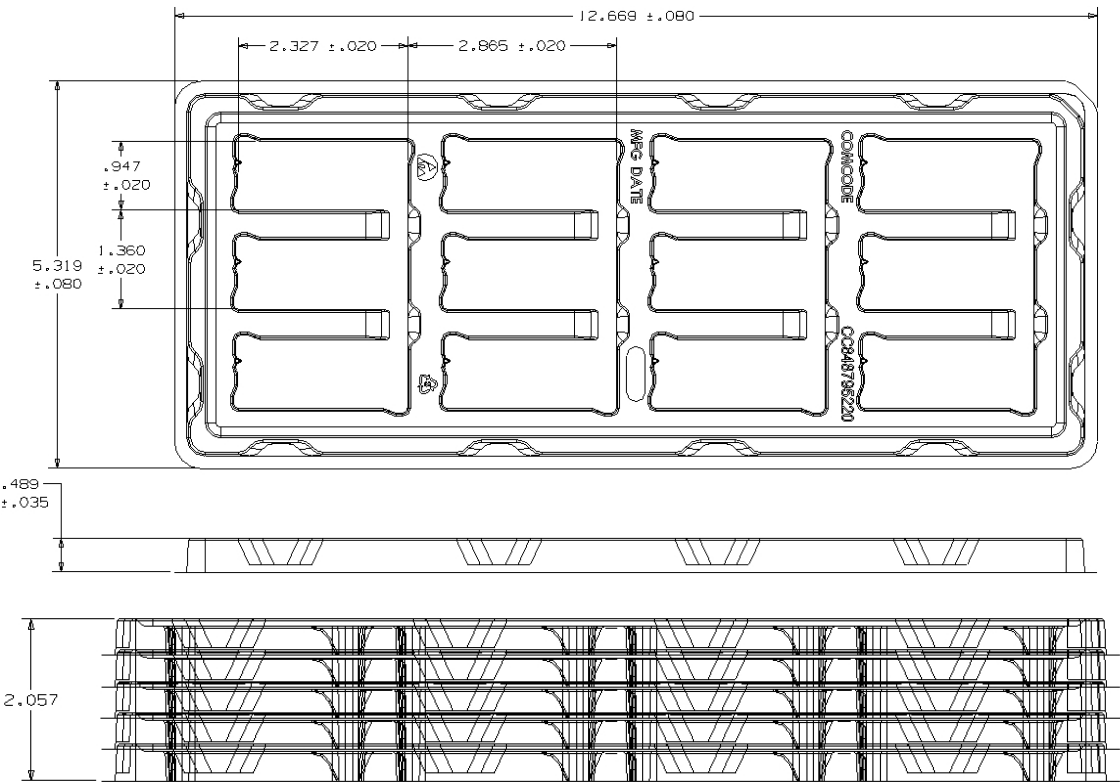

Figure 46. Surface Mount Packaging Tray.
The surface mount versions of the EQW surface mount modules (suffix -S) are supplied as standard in the plastic tray shown in Figure 46. The tray has external dimensions of 135.1mm (W) x 321.8mm (L) x 12.42mm (H) or 5.319in (W) x 12.669in (L) x 0.489in (H).